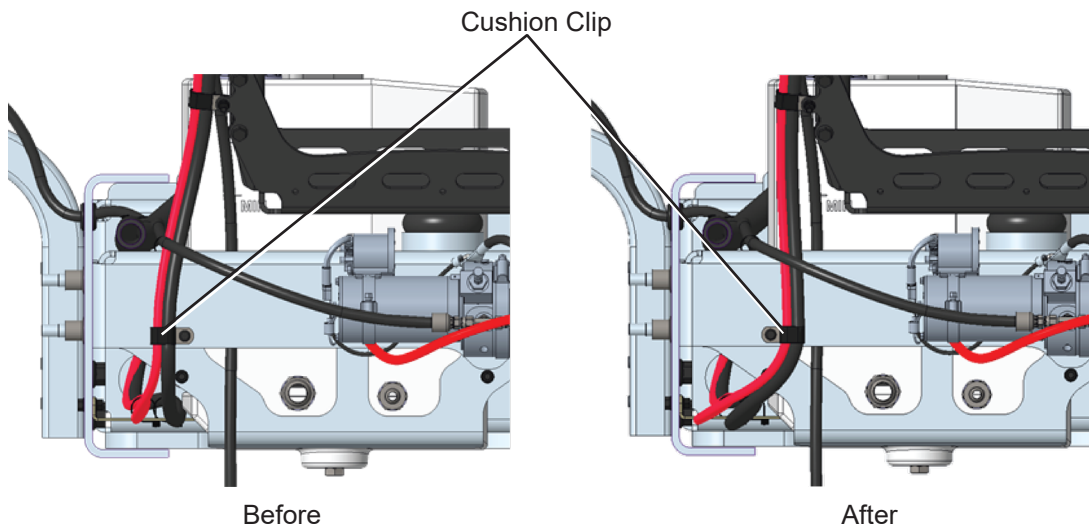

Figure 4
11. Rotate cushion clip removed in Step 10 180 degrees and reinstall on engine alternator cables. See Figure 4.
12. Reinstall 0.25-20 x 1.0 inch screw and lock nut to secure cushion clip to rear engine crossmember. See Figure 4. Final tighten cushion clip mounting hardware to 9 ft. lbs.